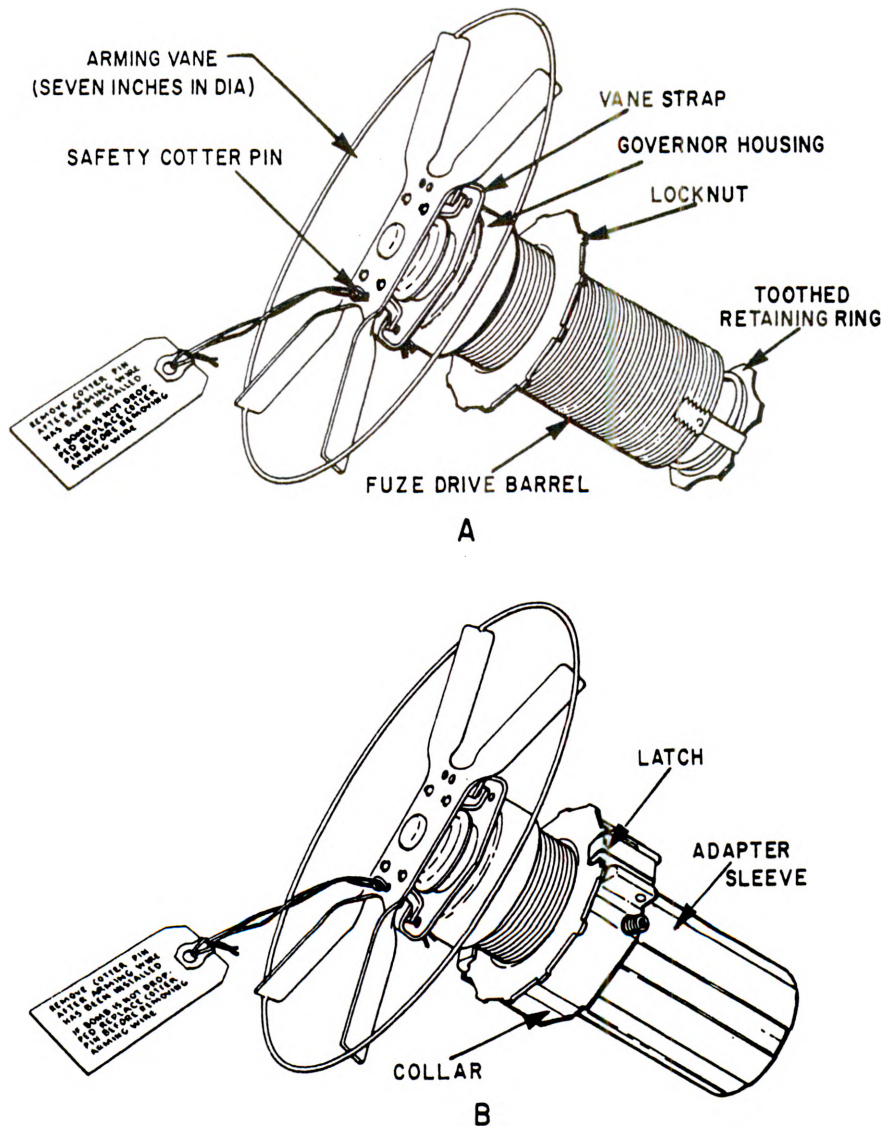

Figure 3-8.—View A, fuze drive Mk 5 Mod 0; view B, fuze drive Mk 5 Mod 0 with adapter.
- Fuze drive barrel with a locknut and a toothed retaining ring (fig. 3-8, view A)
As you read this section refer to figure 3-8. The fuze drive can be quickly and securely fastened to either the conical or Snakeye fins. The adapter (view B) fastens to the conical tail by three socket-head setscrews. To fasten the fuze drive to the Snakeye, screw the threads beneath the adapter collar into the mating threads of the Snakeye tail assembly, and use setscrews to further secure the drive. Two latches on the adapter collar are secured over the fuze drive locknut when the entire assembly is installed in the weapon.